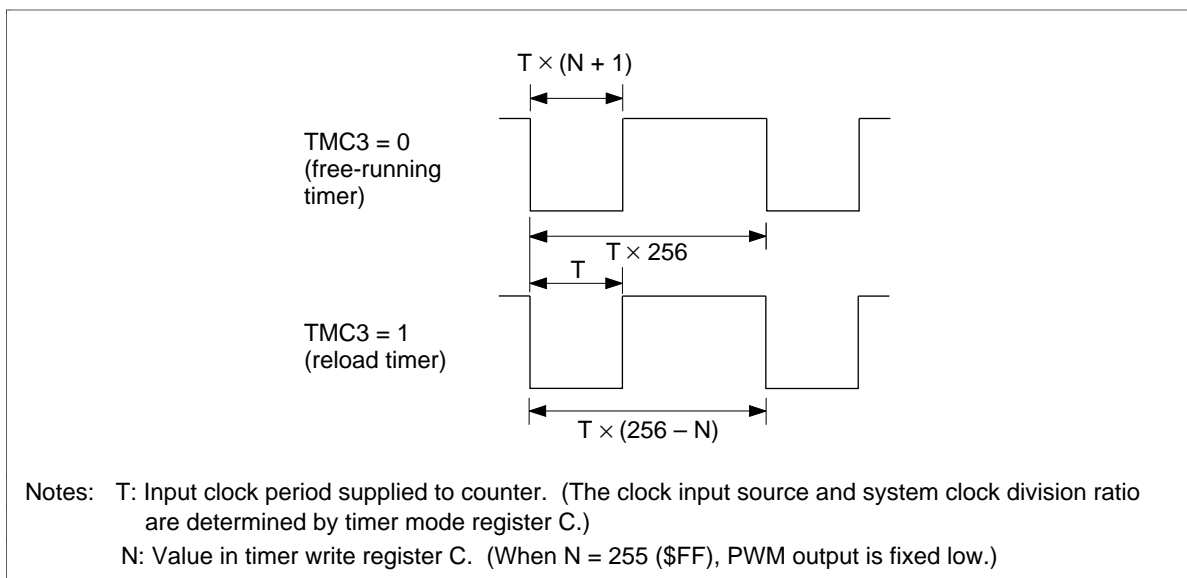

Figure 35 PWM Output Waveform
- Timer output operation: Timer C can select the timer output mode by selecting the TOC pin after setting bit 2 (PMRA2) of port mode register A (PMRA: \$004) to 1. The output of the TOC pin is initialized to 0 by an MCU reset. PWM output is a pulse output function of variable duty. The output wave differs by the contents of timer mode register C and timer write register C, as shown in figure 35.